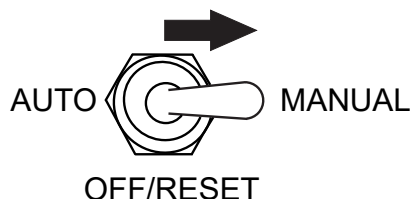

Figure 105. Auto Start/Stop Switch
2. While keeping the **Hour Check button** pressed, place the **Auto Start/Stop switch** (Figure 105) in the **MANUAL** position.